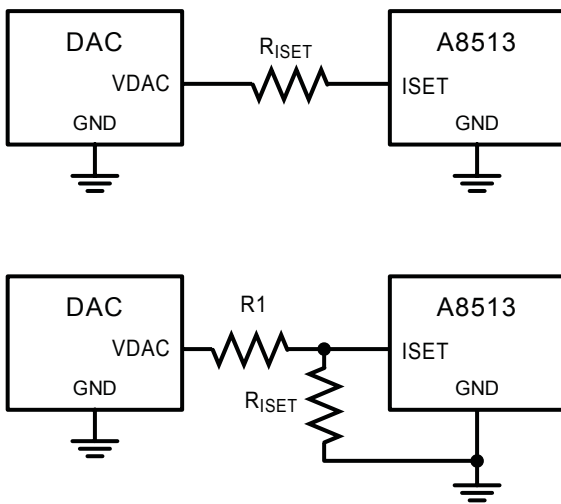

Figure 7. Simplified diagram of voltage LED current control (upper) single resistor, and (lower) dual resistors.
Figure 7, top panel is a typical application using a DAC to control the LED current using a single resistor connected to the ISET pin. The ISET current is controlled by the following formula:
• For a dual-resistor configuration (lower panel of figure 7), the ISET current is controlled by the following formula: